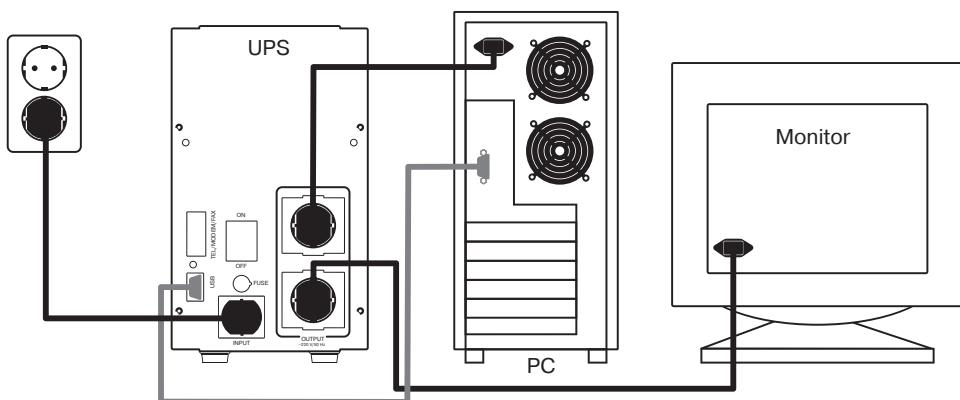

Fig. 3. UPS connection diagram
- Connect the power cable of the computer equipment to one of the UPS output sockets ⑧, and the monitor power cable – to the other UPS output socket (see connection diagram in Fig. 3). Then connect the supplied power cable to the UPS input socket ⑨, and put its plug into a mains outlet.
- Connect the USB interface cable to the corresponding socket ⑪ and to an available PC USB port (connection is optional).